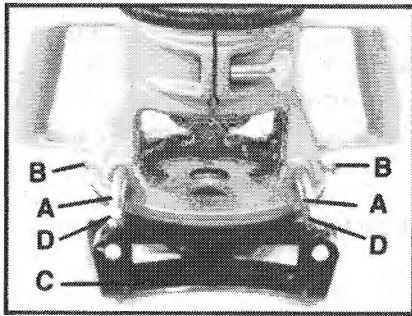

Fig. 6
To assemble, insert Guide Rods (A) in holes in base, Fig. 6 and secure with screws (B). The Guide (C) is adjusted on the rods and secured in desired position with Thumb Screws (D).